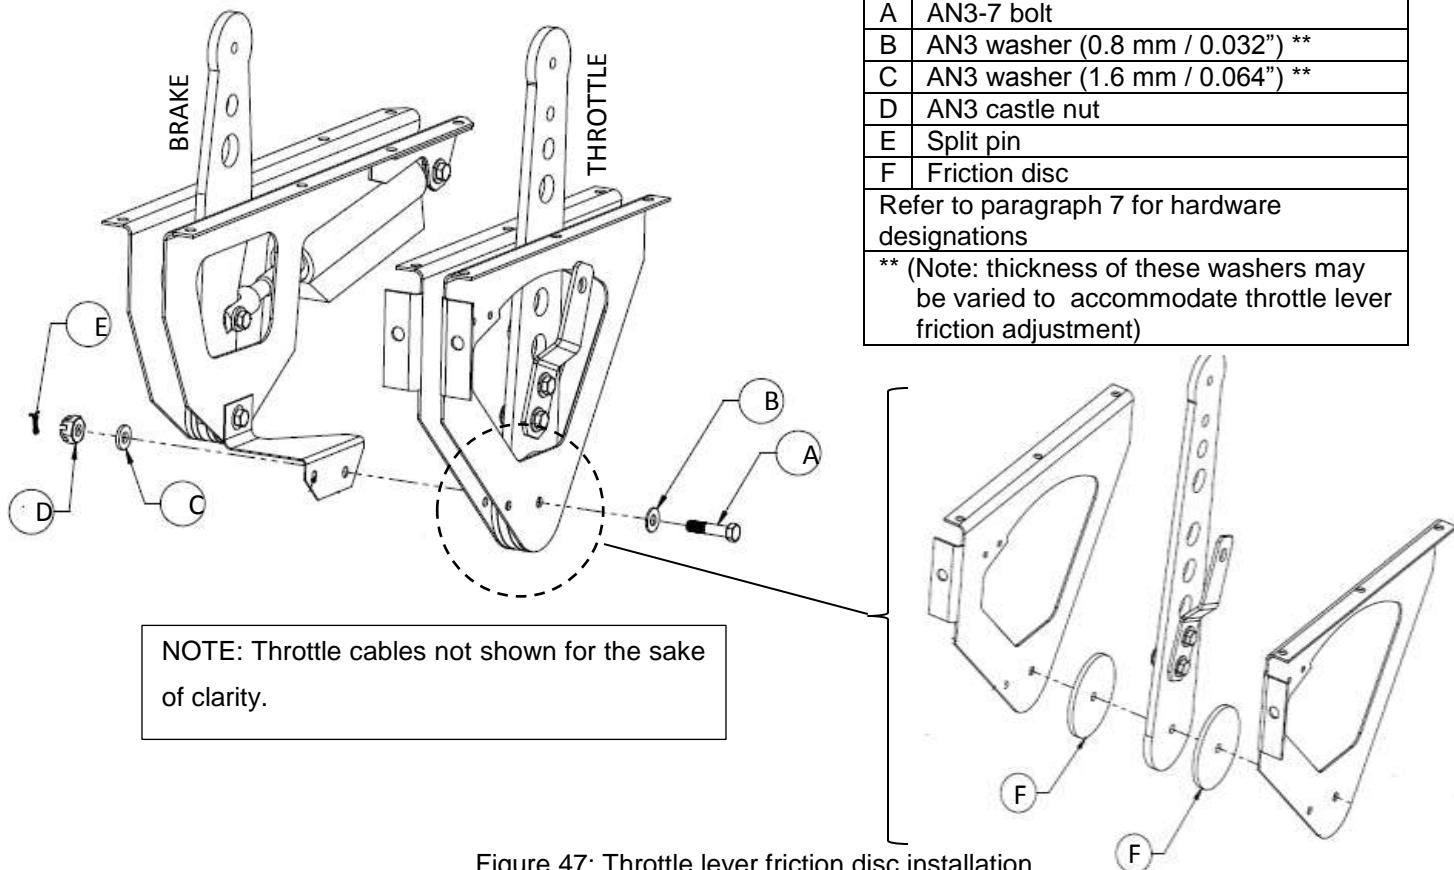

Figure 47: Throttle lever friction disc installation.
Each carburettor throttle control lever is attached to the throttle lever (in cabin) by a separate Bowden cable. Friction on the throttle lever (in cabin) is effected by two friction discs (refer to Figure 47 ).
The butterfly / throttle valve control lever is attached to the throttle lever (in cabin) by a Bowden cable. Friction on the throttle lever (in cabin) is effected by two friction discs (refer to Figure 47 ).
4. Adjust castle nut and thickness of washers to attain required friction (refer to Figure 47).